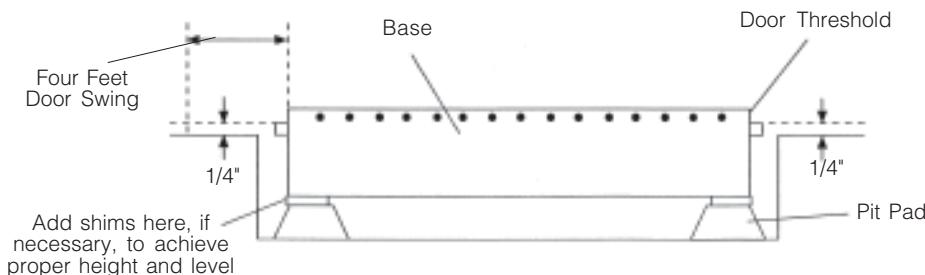

Figure 3-1. Check Base Height
3. Check base height (see Figure 3-1). Ensure the door threshold is at least 1/4" higher than the highest spot on the floor, along the netire door swing (four feet from base). If necessary, position shims under corners of base.